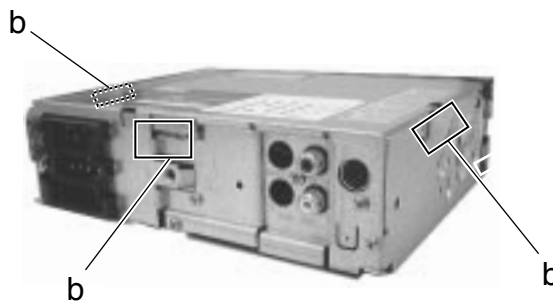

Fig 5
■ Removing the bottom cover assembly (See Fig. 5)